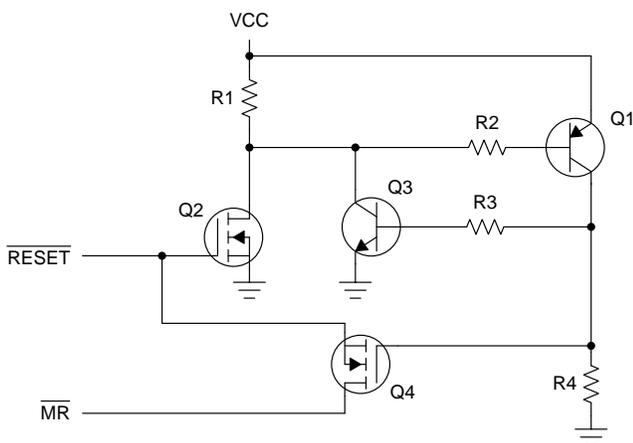
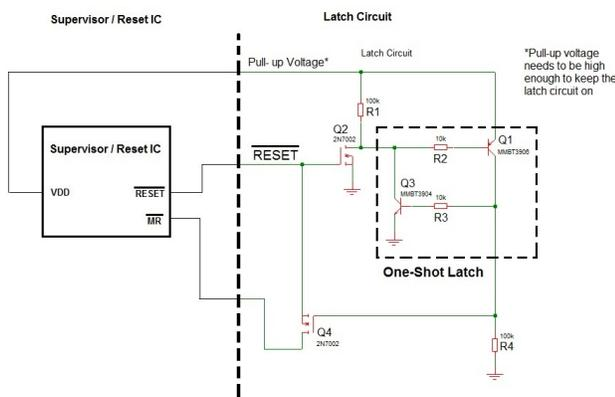

Figure 1. External Latch Circuitry
Figure 3. Voltage Supervisor Latch Circuit
One way to implement such a solution is by using a supervisor with a manual reset ($\overline{\text{MR}}$) input and a voltage-sense output (called $\overline{\text{RESET}}$ for this particular device) in conjunction with external latch circuitry. The latch circuitry includes four active components (two N-Channel MOSFETs, one NPN transistor, and one PNP transistor) along with four resistors as shown in Figure 1.
Figure 3 shows the complete solution which uses a Texas Instruments supervisor with a manual reset (MR) feature such as the TPS3890. By connecting the external circuit shown in Figure 1 to the TPS3890, the RESET output of the TPS3890 will now be a latching reset output.